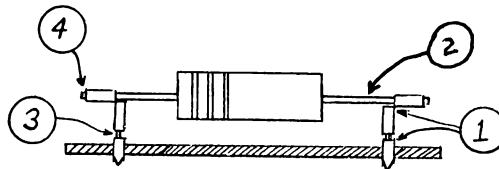

Figure 3-1
1. Installation of service terminals. Used when mounting large lead components. (Figure 3-1.)
a. Remove failed component by clipping leads $3/16 \pm 1/32$ from the top of the tapered component termination. (1)
b. Clean lead to assure a good solder connection. (2)
c. Slide terminal, P/N 3212547, over clipped lead and crimp its entire length. The service terminal should not be off the tapered termination a distance of greater than $1/32''$. (3)
d. Insert the new component in the service terminal and crimp the service terminal around it. The component lead should not extend beyond the service terminal a distance of greater than $1/32''$. (4)